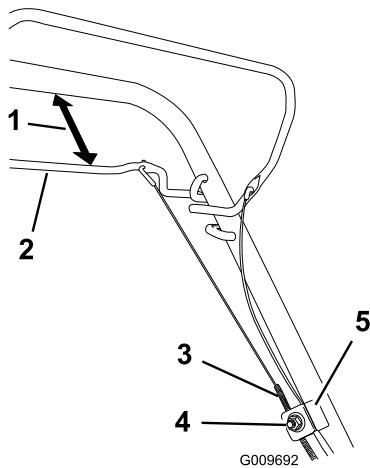

Figure 23
1. Loosen the cable-support nut (Figure 23).
2. Hold the self-propel-drive bar 25 to 38 mm (1 to 1-1/2 inches) from the handle (Figure 23).
3. Pull down the cable jacket (toward the machine) until there is no slack in the cable (Figure 23).